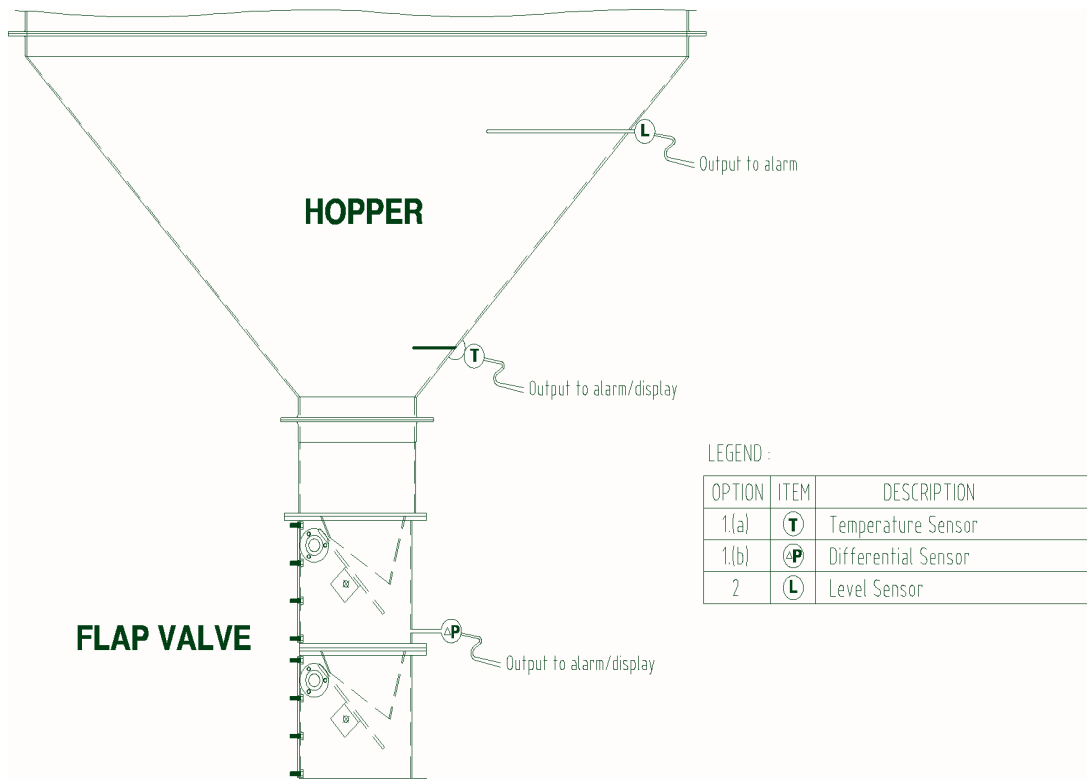

Figure 4 Monitoring of an Axial Flow Vortex Tube System
**3.0 SYSTEMS TO MONITOR VORSEP FILTERS (Refer to figure 4)**